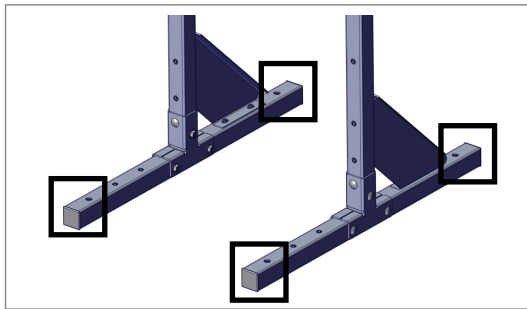

Fig. 9
7. (Recommended) Install four (4) screws and/or expansion anchors (field-supplied) through the base of the legs to prevent tipping potential (Fig 9).